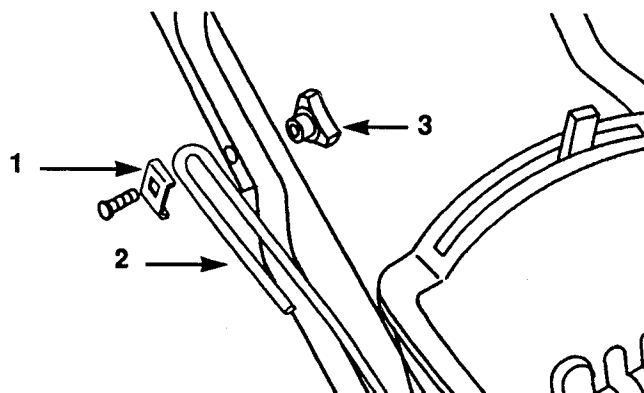

Figure 84
- C. Install the U-shaped end of the mounting rod against the outside of the mower handle, using the new bracket and the original bolt and handle knob (Fig. 84). Make sure the curved sides of the bracket fit around the mounting rod.